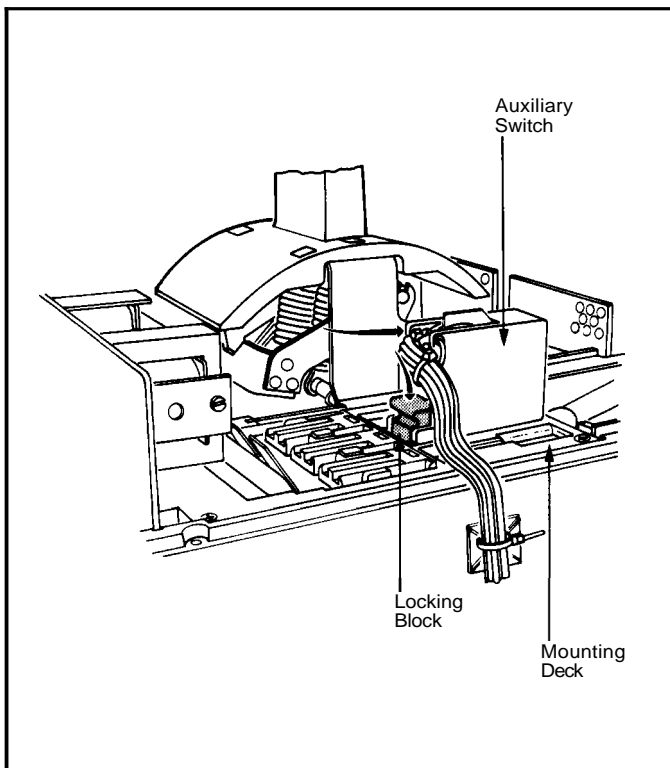
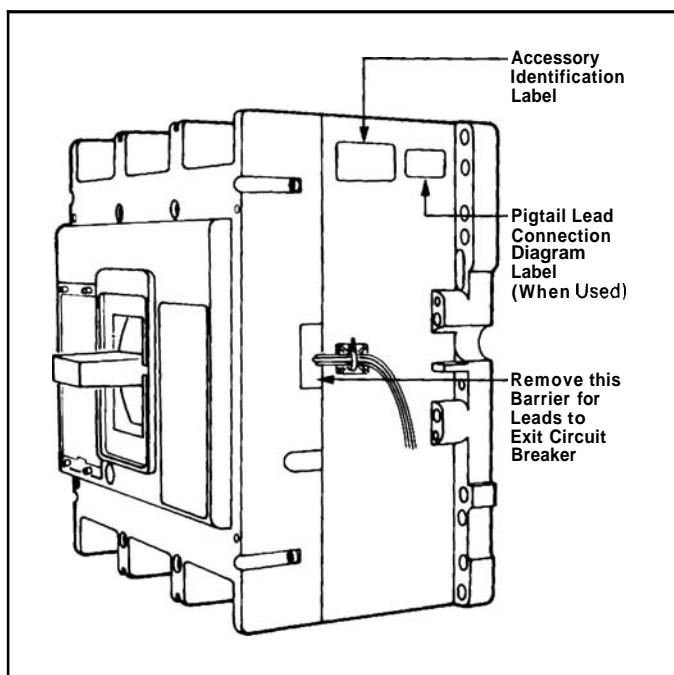

Fig. 2-3 Auxiliary Switch Positioned and Locked in Mounting Deck.
Fig. 2-4 Preferred Mounting Locations for Accessory
- b. Place legs of auxiliary switch mounting bracket into slots in accessory mounting deck (see Fig. 2-3).
- 2-6. Attach cable tie mounting pad to side of circuit breaker (see Fig. 2-4 for location). Route leads to mounting pad. Ensure leads line up with slot in cover and are clear of all moving parts. Secure leads to mounting pad with cable tie. Leads from multiple accessories may be secured by a single cable tie and mounting pad (see Fig. 2-3).
- 2-7. Remove barrier indicated in Fig. 2-4 from cover accessory lead slot.
- 2-9. Position accessory labels on circuit breaker as shown in Fig. 2-4.